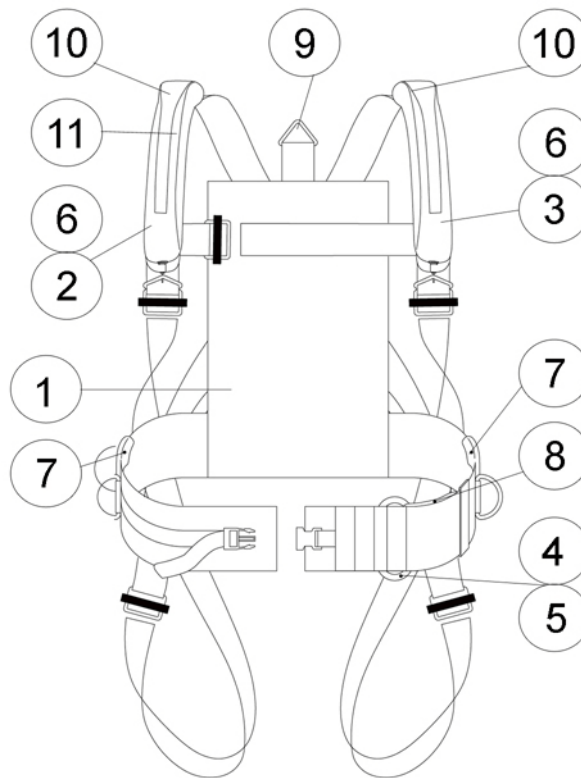

Fig 4.2 Weekly Maintenance - Harness and Counterlungs
3. Inspect the harness and counterlungs, shown in Fig 4.2, for damage or wear. Replace any damaged or worn components as necessary.